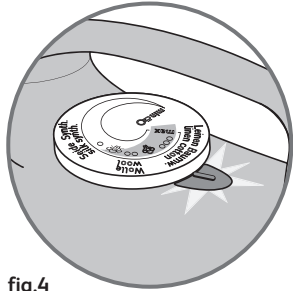

fig.4
- The thermostat light comes on (fig.4). It will go out when the soleplate is hot enough.